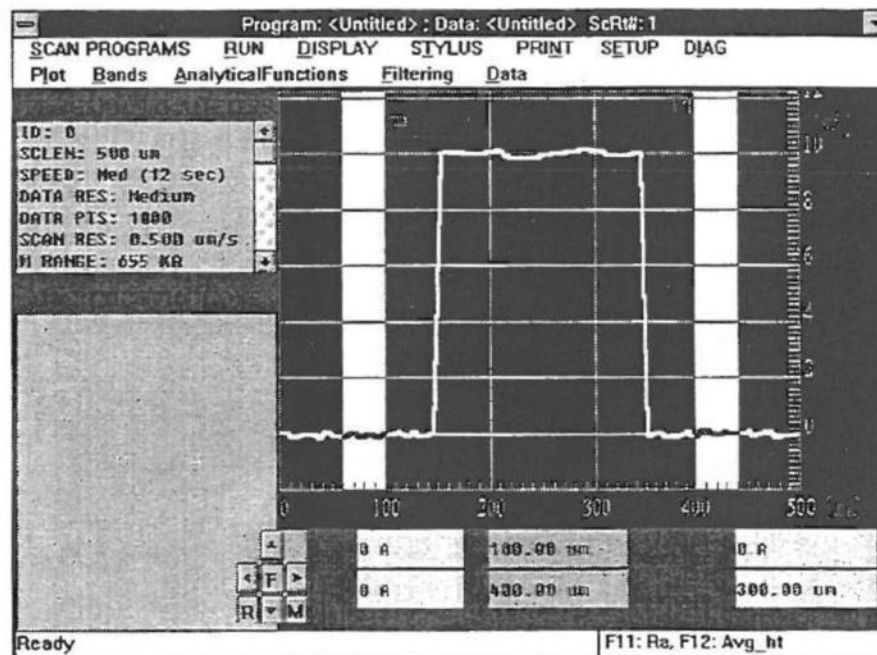

Figure 10 - 2 Calibration Standard Step Height
5. Click on Run Single Scan a second time, and software level the trace as described in Section 4. The resulting profile should resemble Figure 10 - 2 below.